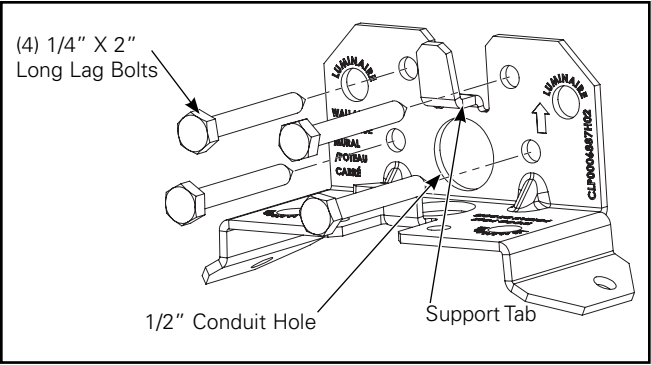

Figure 2.
- **Wall/Square Pole Mount:** Place bracket (wall/sq pole mount) face against mounting surface with bracket arrow pointing up. (Figure 2.)